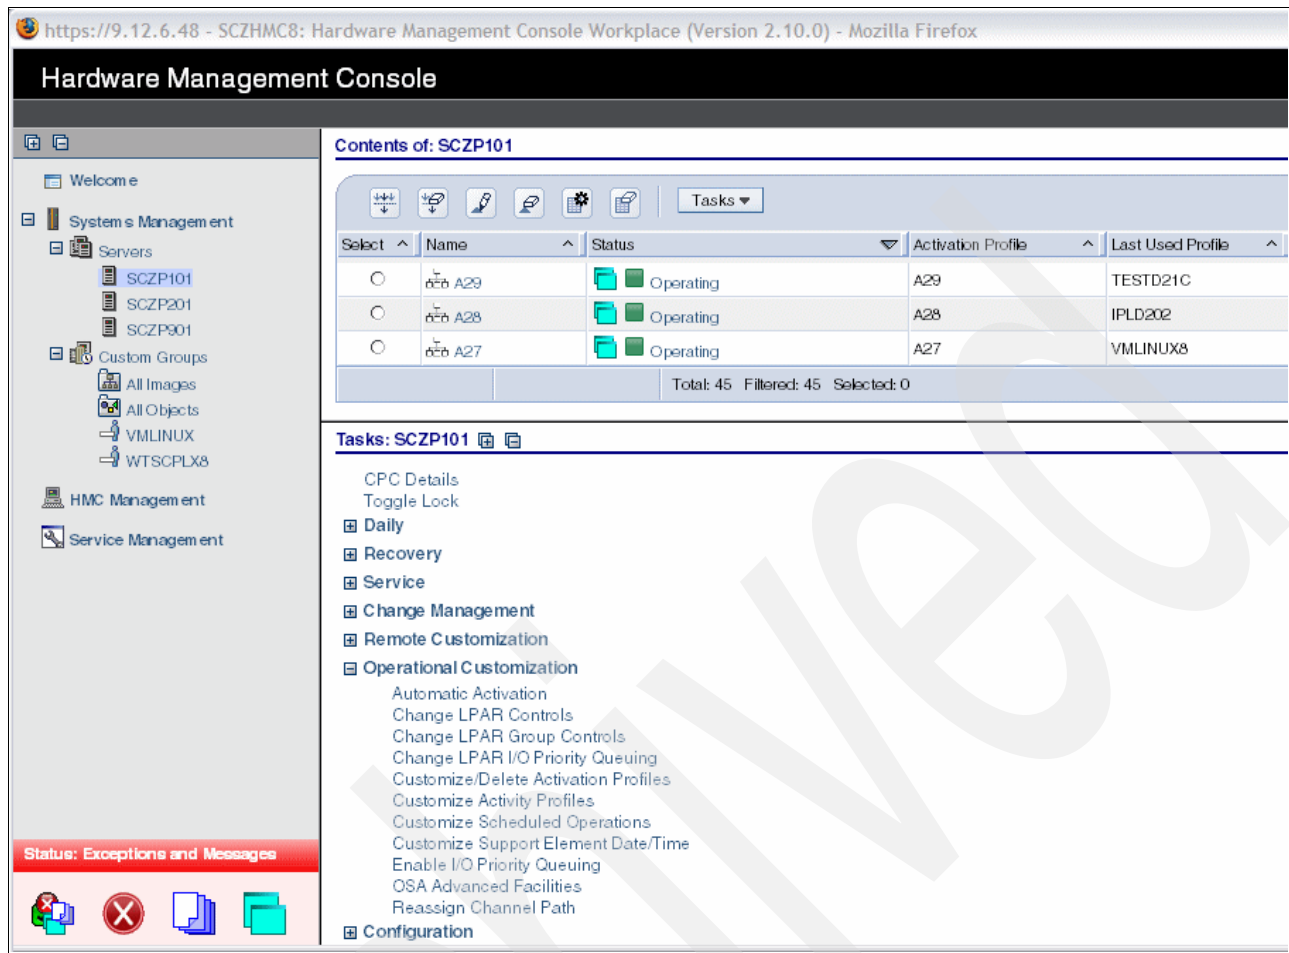

Figure 4-37 HMC - OSA Advanced Facilities (Task Menu)
- c. On the Tasks pad, click **Operational Customization** to expand it, and select **OSA Advanced Facilities** (Figure 4-37 on page 164).